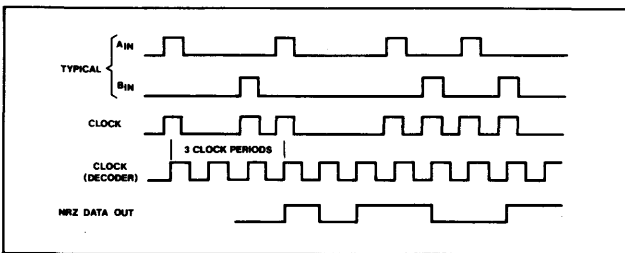

Fig. 4 Decode waveforms
2. The decoded NRZ output is delayed by 3 clock periods from the HDB3 inputs (A_{in}, B_{in}) (Fig.4).